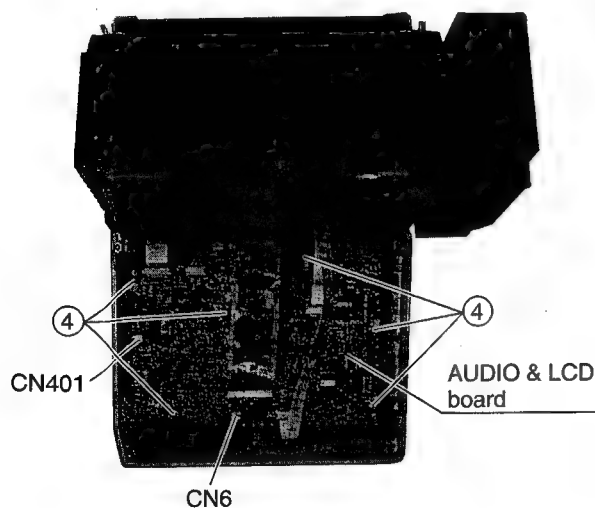

Fig. 1.2.3 (2) Adjustment position of the AUDIO & LCD board
- (5) As shown in the Fig. 1.2.3 (3), while the AUDIO & LCD board is standing, the diagnosis is possible.